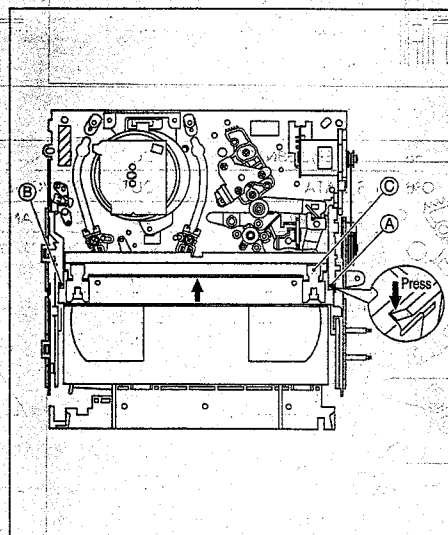

Fig. 2-1-2
The spring plate (C) is then brought under the cassette lid. Then remove the top plate by pressing the whole cassette tape down. (Note 1) (See Fig.2-1-2).